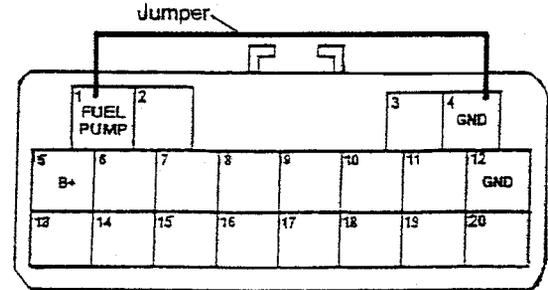

Figure KA007-1
3. Reconnect the battery. Use a fused jumper to ground the fuel pump test terminal in the underhood diagnostic link connector (DLC) (Figure KA007-1). Connect the jumper wire between terminals 1 and 4. Turn the ignition switch to the ON position. Note the gauge reading for unregulated fuel pressure, and compare it with the specified value listed in Table KA007-1.